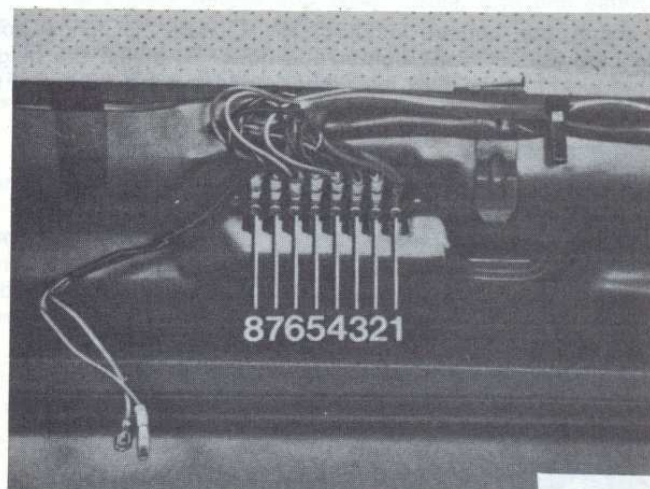

Fig. 12.5 Tailgate wiring diagram (Sec 11)
- 9 Refitting is a reversal of removal, but align the bolts with the previously made marks before tightening them. The wiring should be connected as shown in Fig. 12.5. Check that the tailgate is central within its aperture and aligned with the surrounding bodywork. Adjustment can be made by loosening the hinge bolts and repositioning the tailgate so that it is level with the surrounding bodywork or a maximum of 1.0 mm (0.04 in) lower.